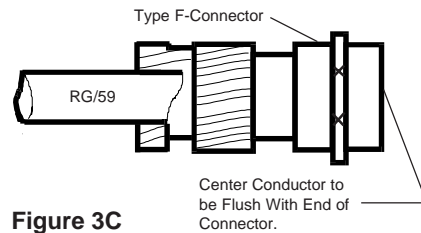

Figure 3C
**STEP 7.** Screw the F-connector onto the cable jacket until the Dielectric butts against the inner retaining ring. Cut the center conductor off flush with the end of the connector. See Figure 3C.